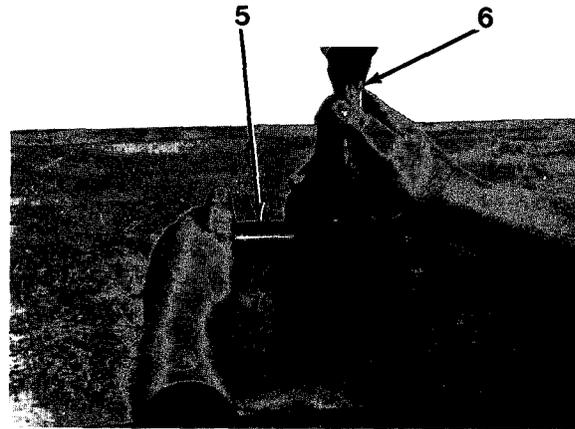

Figure 6-7
10. Remove piston pin (5) and connecting rod (6, Figure 6-7).